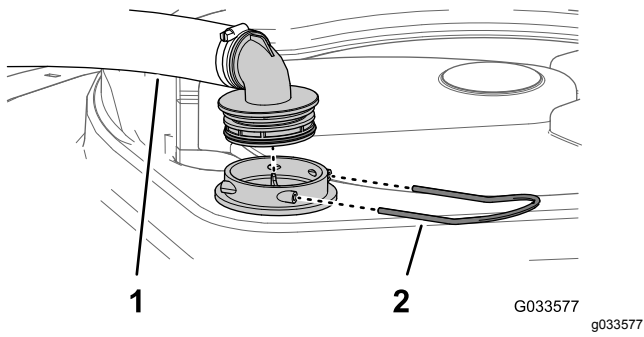

Figure 20
2. At the top of the sprayer tank, remove the retainer that secures the hose fitting attached to the large hose from the filter housing (Figure 20).
3. Remove the hose and hose fitting from the filter housing (Figure 20).